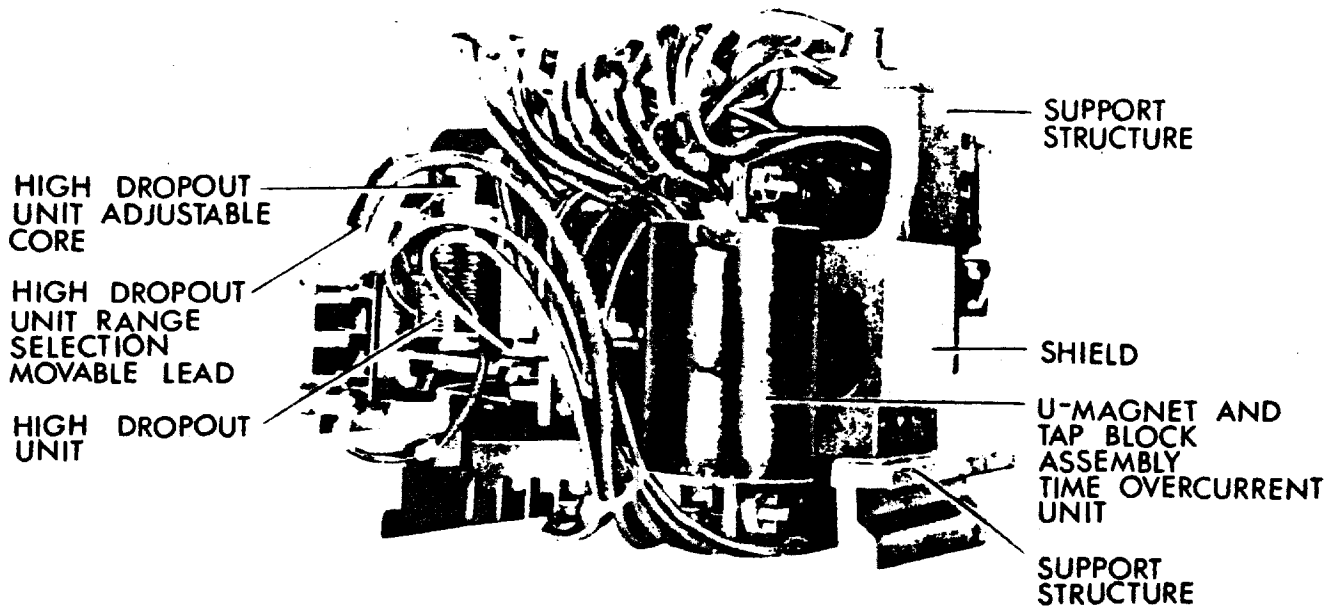

FIG. 2 (8043011) TYPE IFC66K RELAY, REMOVED FROM CASE, REAR VIEW
1. Select the desired range by setting the movable lead in the proper position. (See Figure 2 and the internal connections diagram). Whenever possible always select the higher range since it has higher continuous rating.